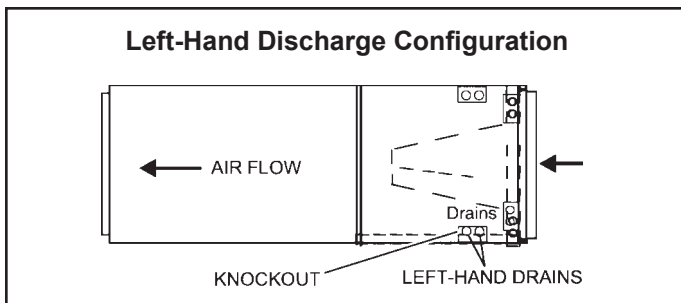

Figure 3
4. The horizontal configuration is shown in Figure 3.